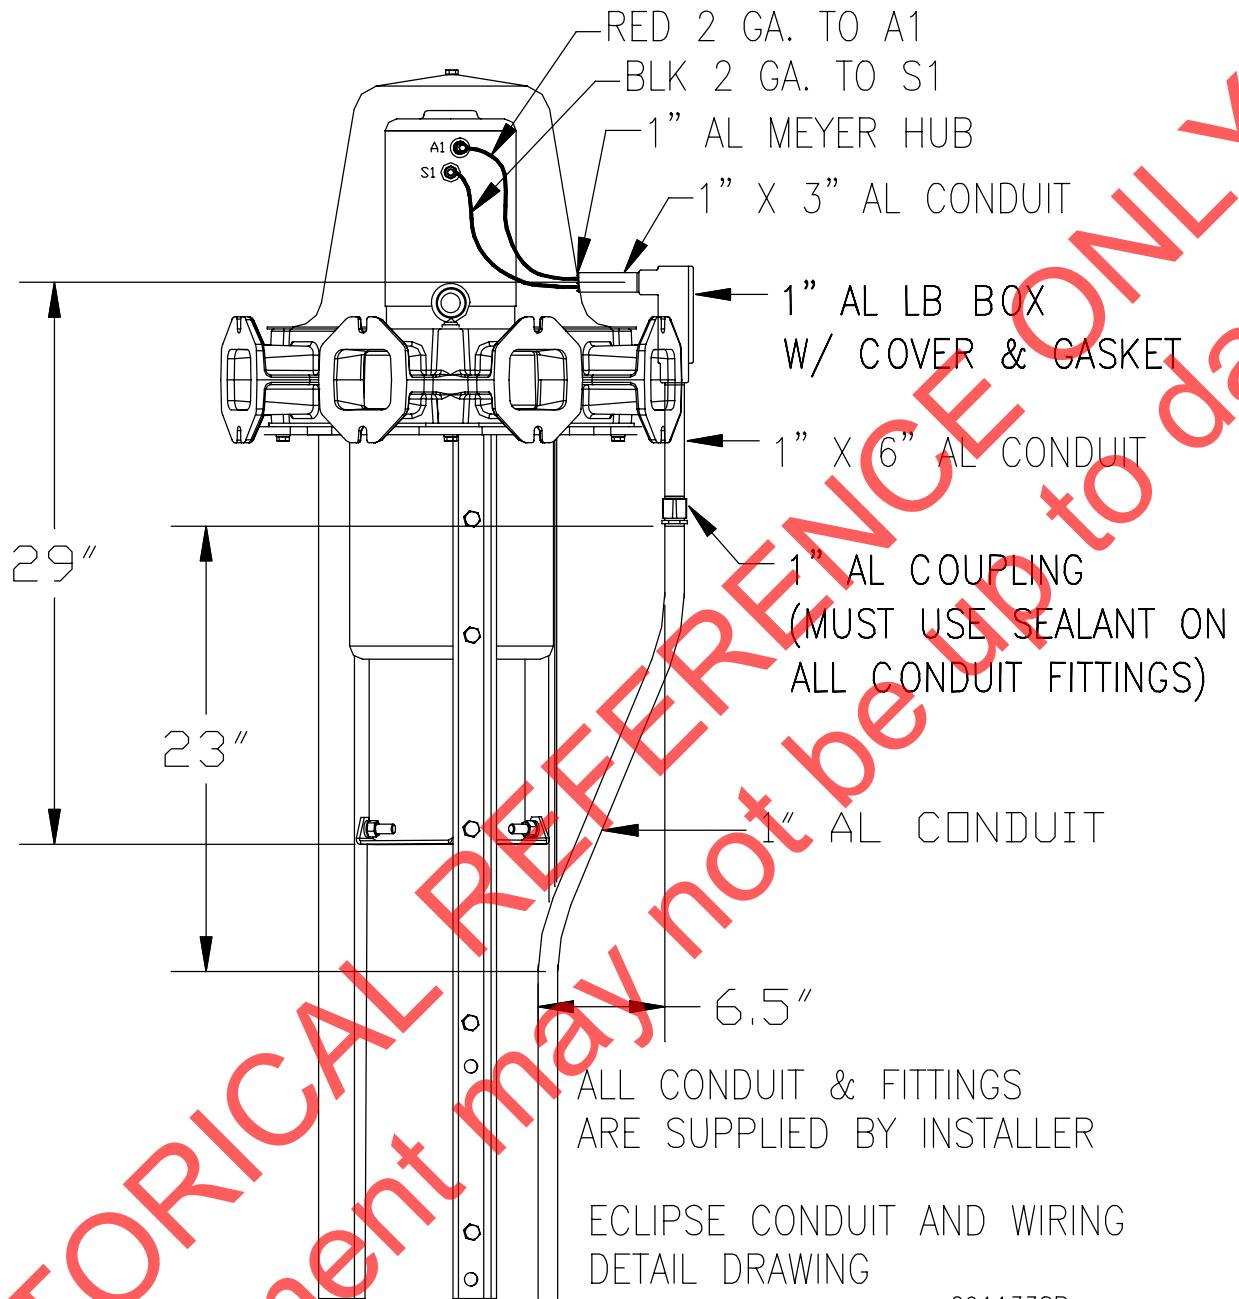

Figure 3-3. Conduit Connection and Wiring Detail
| Figure 3-3. Conduit Connection Detail .....                  | 7    |
5. Refer to Figure 3-3 for running conduit to the siren and follow the instructions provided with the siren controller for making electrical connections – omitting any references to rotation.
4. Refer to Figure 3-3 for running conduit to the siren and follow the instructions provided with the siren controller for making electrical connections – omitting any references to rotation.